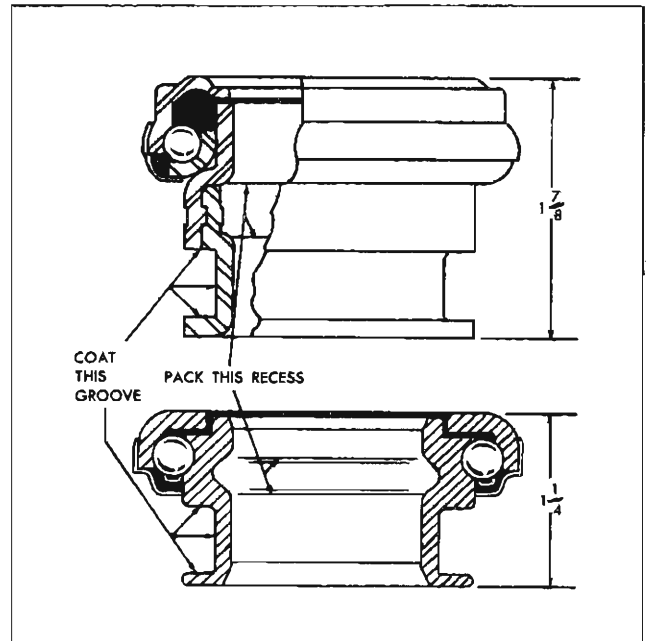

Fig. 4—Release Bearing Lubrication and Comparison
The clutch release bearing (fig. 4), used with the bent finger diaphragm clutch, has an overall length of approximately 1-1/4". The longer bearing, used with the straight diaphragm, will cause inability to obtain free pedal travel, especially as the clutch wears, resulting in slippage and rapid wear. **DO NOT INTERCHANGE!**
6. Lubricate the recess on the inside of throwout bearing collar and the throwout fork groove with a light coat of graphite grease (fig. 4).